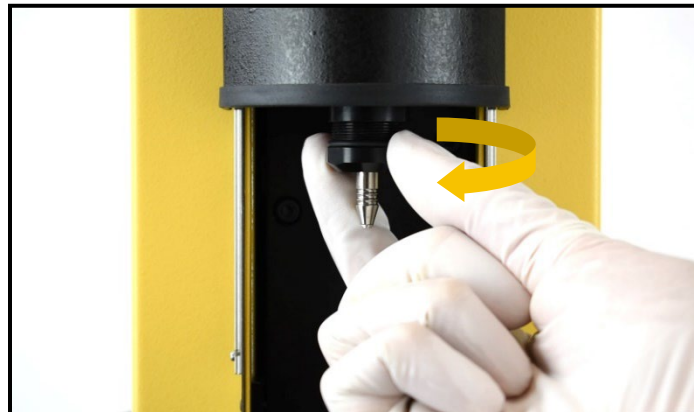

Figure 10. Removing Quick Set Fibrette Coupler.
4. Rotate the Holder clockwise until it becomes free from the Translation Stage, as shown in Figure 10.